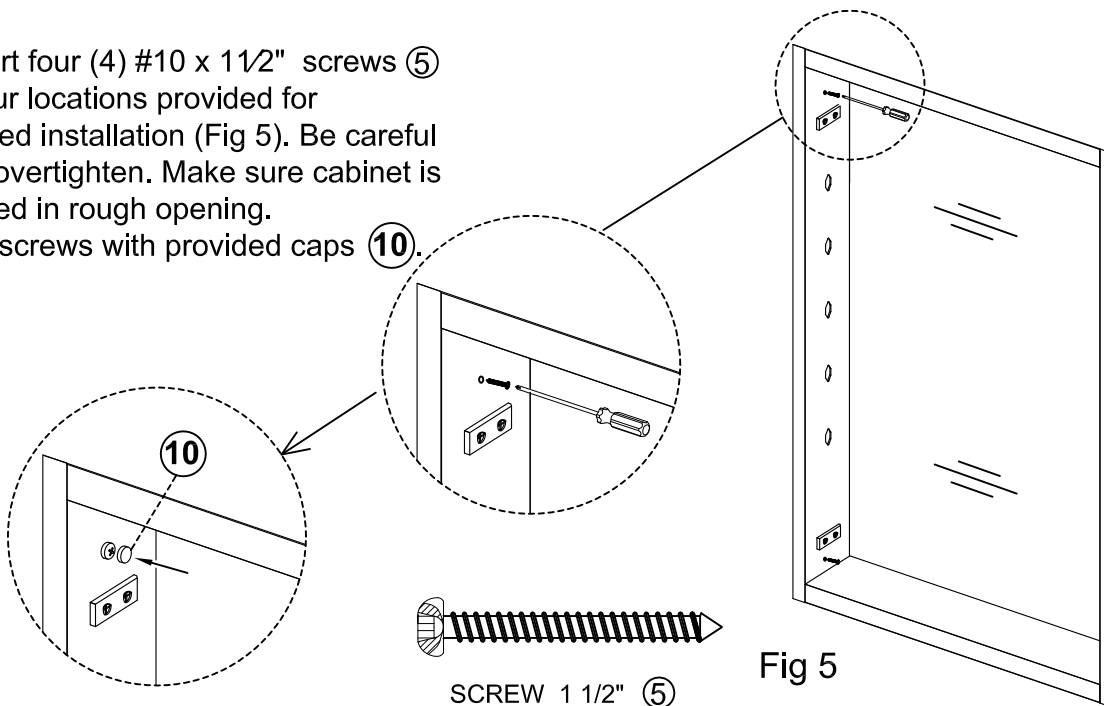

Fig 5
3. Insert four (4) #10 x 1 1/2" screws (5) into four locations provided for recessed installation (Fig 5). Be careful not to overtighten. Make sure cabinet is centered in rough opening. Cover screws with provided caps (10).